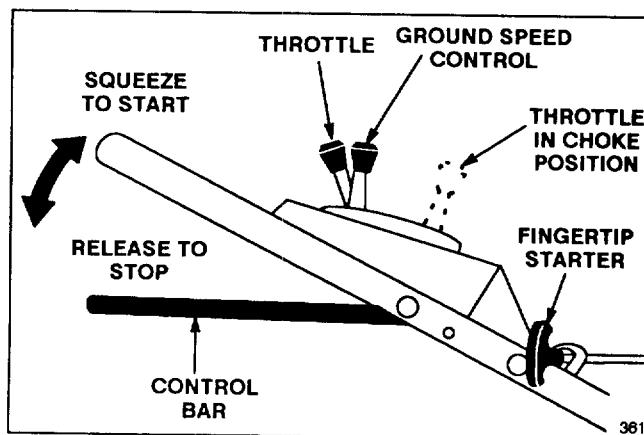

Figure 8
3. KEY-LECTRIC STARTING — Move ground speed control to "N" and throttle to CHOKE. Lift control bar to handle (Fig. 8) and hold. Turn key to START and release when engine begins running. When engine starts, remove throttle from CHOKE and regulate as desired. If the battery's charge is too weak to start the engine, the engine can be started with the fingertip starter (Fig. 8).
4. MANUAL STARTING — Move ground speed control to "N" and throttle to CHOKE. Lift control bar to handle (Fig. 8) and hold. Pull fingertip starter out until positive engagement results; then pull vigorously to start the engine. When engine starts, remove throttle from CHOKE and regulate as desired.
5. GROUND SPEED/SELF-PROPEL OPERATION (Fig. 8 & 9) — Move control bar to the RUN/SHIFT position. Move ground speed control to desired setting. Number "1" is slow, "2" is medium, and "3" is a fast walking pace. Move ground speed control to "N" when using the mower for trimming and whenever leaving mower.